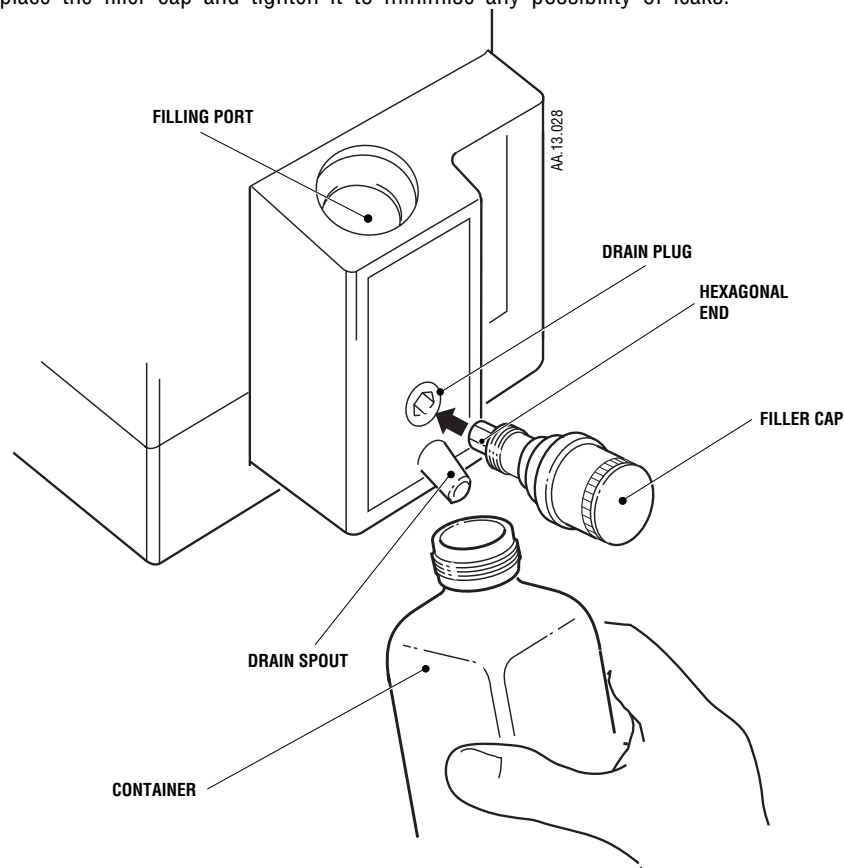

Fig. 7 Draining A Vaporizer Which Incorporates A Screw Cap Filler
1. Remove the filler cap and insert the hexagonal end of the cap into the drain plug situated below the filling port on the filler body as illustrated on Fig. 7.